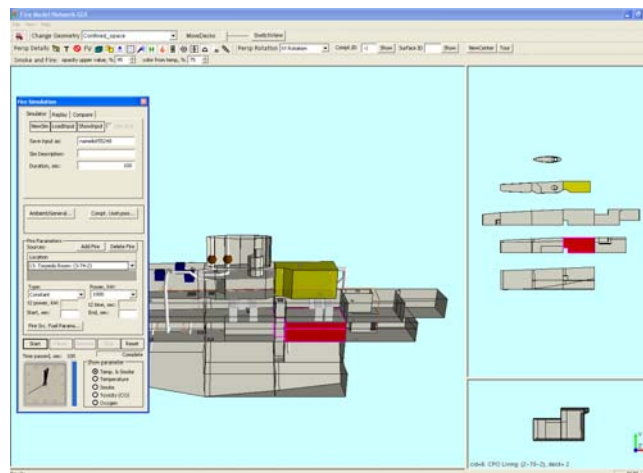

Figure 3-10 Simulation visualization in 3D and floor plan views
Step 7: The object state editor will be hidden, the program should start running, and in a few seconds you should see compartment 13 turn yellow, then red as simulation runs, and another compartment turn yellow as shown in Figure 3-10. This simulation should stop when the time reaches 100 seconds (the default time).